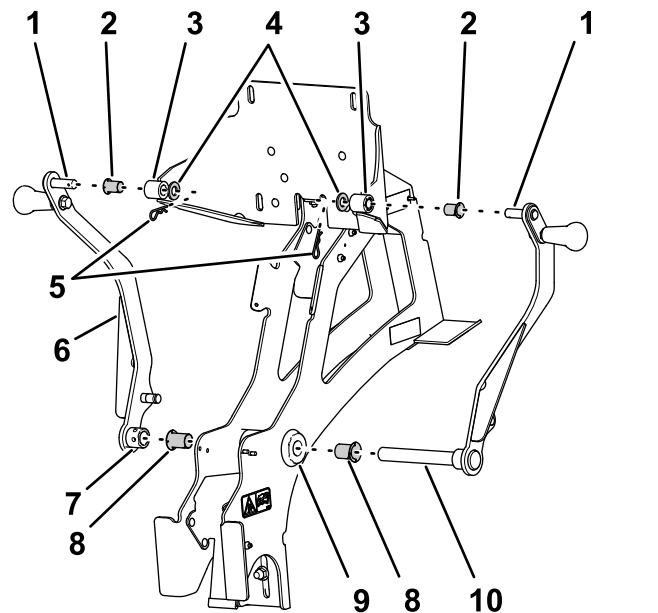

Figure 17
1. Insert a flanged bushing (3/4 inch inside diameter) into each end of the pivot tube in the main-support frame (Figure 17).
2. Insert a flanged bushing (1/2 inch inside diameter) into the left and right hubs of the back plate (Figure 17).
3. Assemble the lower pivot pin of the right cradle arm through the flanged bushing at the right side of the pivot tube and the pivot (Figure 17).
4. Assemble the upper pivot pin of the right cradle arm through the right hub of the back plate (Figure 17).
5. Secure the upper pivot pin to the back plate with a washers (1/2 inch) and hairpin (Figure 17).
6. Assemble the hub of the left cradle arm over the end of the lower pivot pin of the right cradle arm that is protruding to the left of the left flanged bushing in pivot tube (Figure 17).
7. Assemble the upper pivot pin of the left cradle arm through the left hub of the back plate (Figure 17).
8. Secure the upper pivot pin of the left cradle arm to the back plate with a washer (1/2 inch) and hairpin (Figure 17).